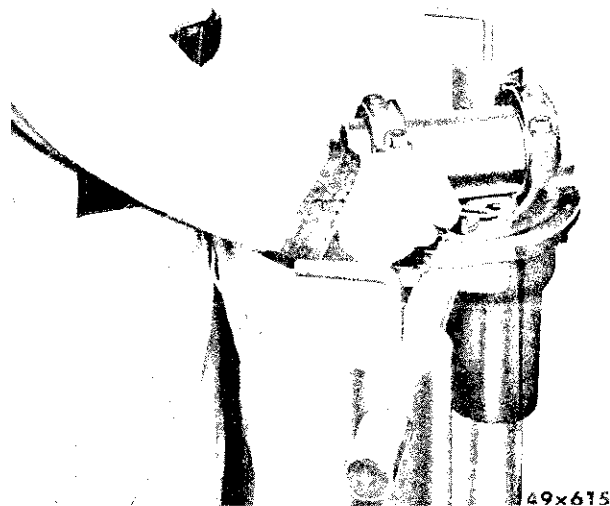

Fig. 24—Determining Spacer Washer Thickness
- (3) Select a washer that will fit between the tool gauge block and arbor (Fig. 24). This fit must be snug but not too tight (similar to the pull of a feeler gauge). This washer is suitable for measurement, not for installation.
- (4) To select a washer for installation, read the marking on the end of the pinion (—0, —1, —2, +1, +2, etc.). When the marking is —, add that amount to the thickness of the washer selected in (3). When the marking is +, subtract that amount. Example: With a washer .086 inch thick and a pinion marked —2, install